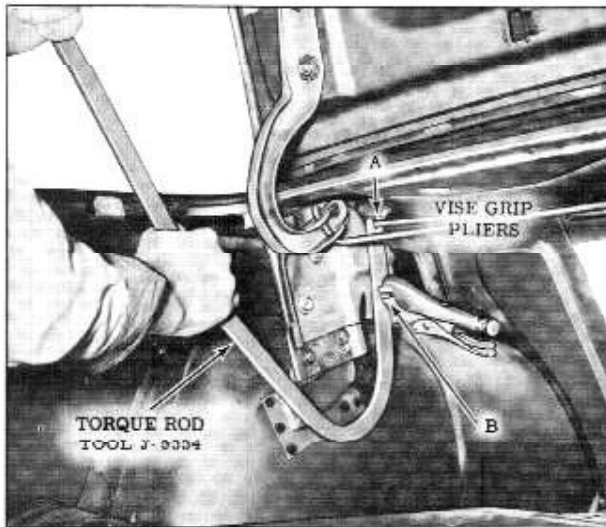

Fig. 15-35 Rear Compartment Lid Torque Rod Adjustment
The amount of effort required to open and close the rear compartment lid is determined by the position of the torque rods in the notches on the hinge mounting plate. (Fig. 15-35) If the torque rod is located in the most forward notch, the effort required to open the lid is the greatest and the effort required to close the lid is the least. If the torque rod is located in the most rearward position, the effort required to open the lid is the least and the amount of effort required to close the lid is the greatest. Fig. 15-35 illustrates how to use Tool J-9554 to perform these adjustments.
2. Engage notch in end of Tool J-9554 with torque rod to be adjusted. ("A", Fig. 15-35) Engage hole in tool with "return crank end" of same torque rod, ("B" Fig. 15-35)
4. Disengage torque rod from hinge plate by raising tool with one hand and holding it firmly against hinge plate with other hand. (Fig. 15-35) Adjust torque rod to desired position, or remove rod completely.